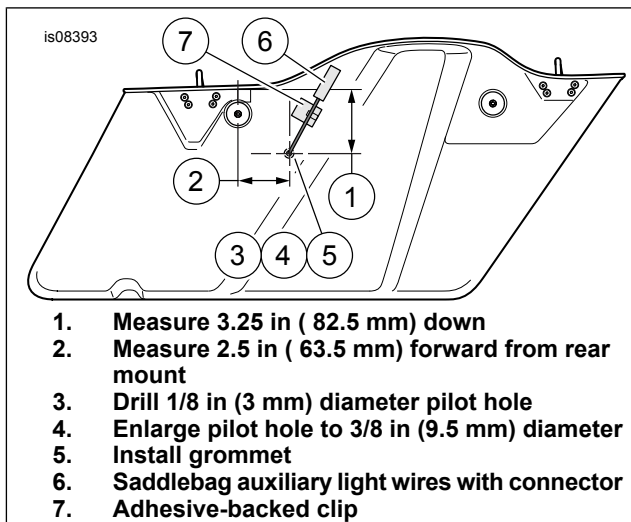

Figure 2. Drill Wiring Hole in Inboard Saddlebag Wall (Left Bag Shown)
1. See Figure 2. Lay strips of masking tape on the outside of the inboard saddlebag wall, in the approximate area of the required wiring hole. Carefully measure and mark the hole location as shown.
7. Get a four-way Molex pin housing (9) from the kit. See the service manual appendix. Insert the spoiler wires into the pin housing:
8. Get an adhesive-backed wire clip (8) from the kit. Use the clip to fasten the spoiler wiring to the outside of the saddlebag as shown. See Figure 2.
11. Get the wire harness (10) from the kit. Unplug the six-way vehicle harness connector [C7] under the seat:
15. Secure wiring to the frame tubes with cable straps (11) as needed.